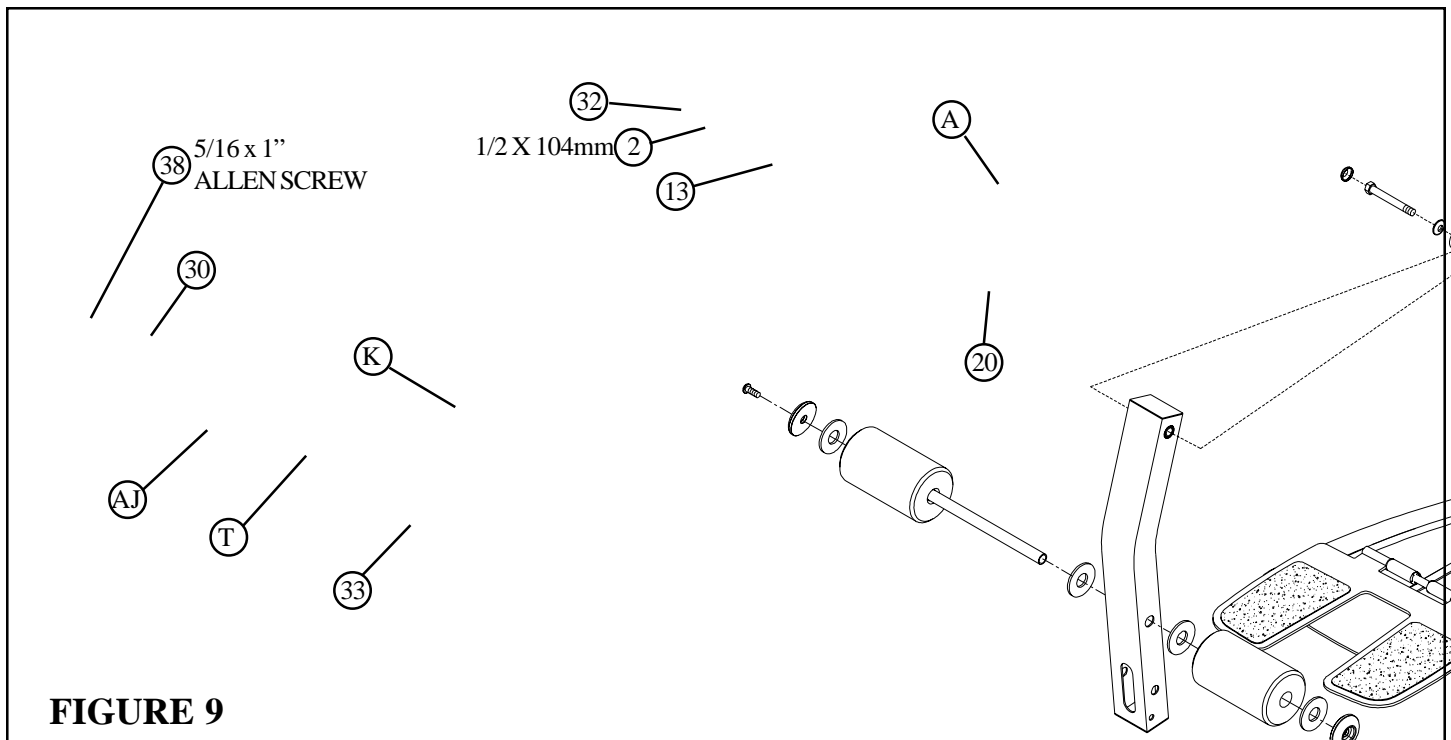

**FIGURE 8**
- **SECURELY** assemble the PEC PLATE (O) to the BASE (B) using two 3/8 X 2-3/4" BOLTS (9), one 3/8 X 4" BOLT (5), two 3/8" WASHERS (18) and three 3/8" LOCK NUTS (19) as shown in FIGURE 8.
- **SECURELY** assemble the LEFT (F) and RIGHT (G) PEC FLY ARMS to BASE (B) using two 1/2 X 3/4" BUTTON HEAD BOLTS (15) as shown in FIGURE 8. (**Note: Tighten this connection enough to remove excess play yet allow the PEC FLY ARMS to rotate freely.**)